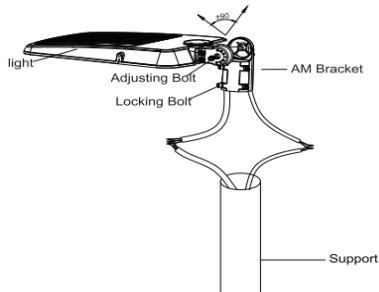

Figure 5
Step 1: Loosen the four bolts on AM bracket, connect the wires correctly, and pull the wires into the poles.(Figure 5)